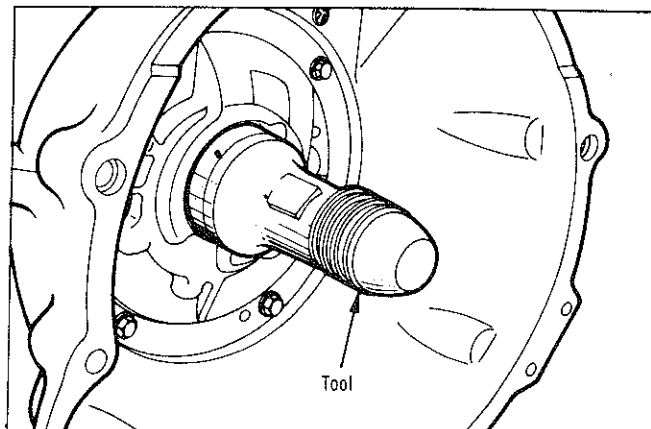

Fig. 31—Installing pump oil seal
(2) To install a new seal, place seal in opening of the pump housing (lip side facing inward). Using Tool E21C35F, drive seal into housing until tool bottoms (Fig. 31).